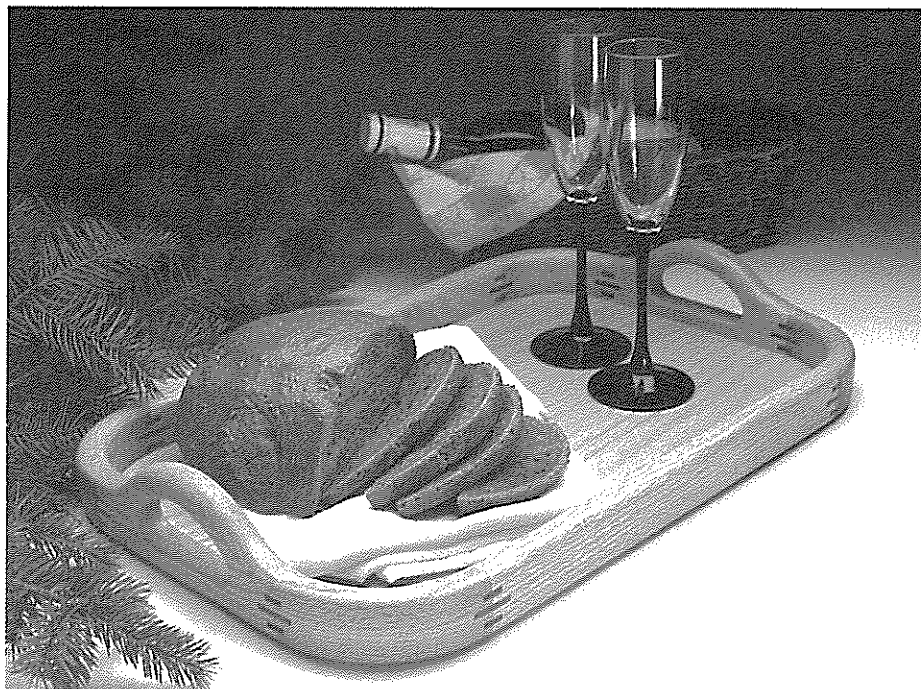

FIGURE 1
To make the corners (A) for this serving tray, I started by laminating two pieces of 4/4 stock ($\frac{3}{4}$ " to $\frac{13}{16}$ " actual thickness) which will produce a blank $1\frac{1}{2}$ " to $1\frac{5}{8}$ " thick, see Fig. 1. (Or, you can use a piece of 8/4 stock.) Cut this piece to a width of $4\frac{7}{16}$ " and a length of 29".
CUT BLOCKS. To cut out the four blocks needed for the corner pieces, begin by cutting off the end of the blank at a 45° angle. Then cut off four *triangular*-shaped blocks, see Fig. 1. To make the square blocks, cut the "ears" off two corners of the triangles to get blocks $3\frac{1}{8}$ " square. (I cut off the "ears" on a band saw.)